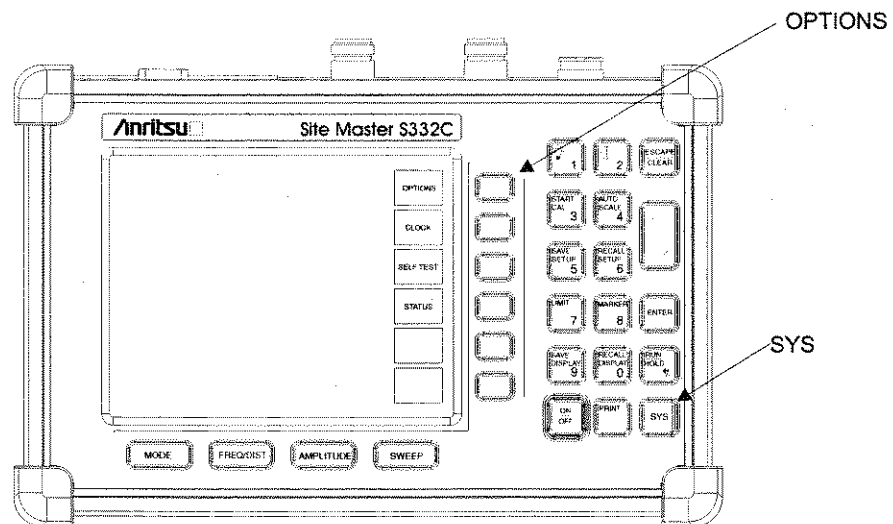

Figure 3-5-. SYS Key and OPTIONS Soft Key
**Step 3.** Press the **SYS** key and the **OPTIONS** soft key (Figure 3-5) .